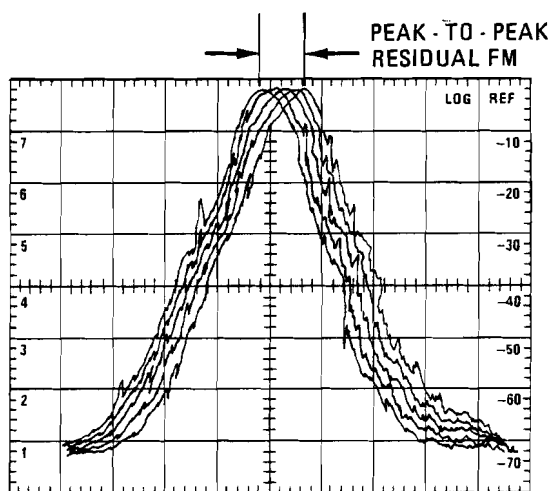

Figure 4-8. Residual FM Display on Spectrum Analyzer
5. Set spectrum analyzer sweep trigger to single sweep. Set persistence control fully clockwise and erase the trace. Push spectrum analyzer start/reset pushbutton five times within a two second interval and store resultant traces on CRT screen. Display should be similar to that shown in Figure 4-8. Note the peak-to-peak residual FM across the top of the trace and divide it by two to get the peak. Record the peak residual FM on the test card step 5.